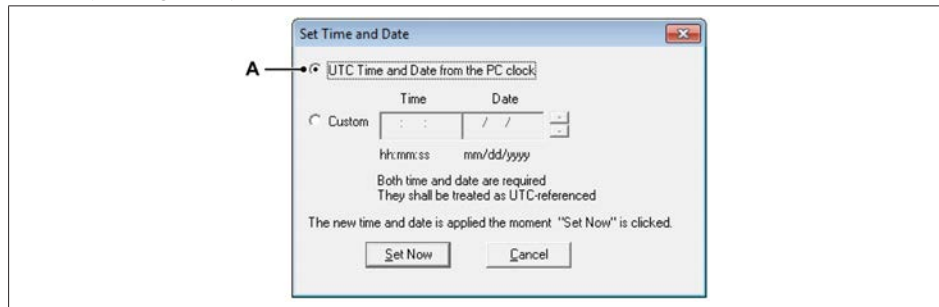

Fig. D.66 UTC Time and Date from the PC clock
11. Now the **Set Time and Date** window is shown (see Fig. D.66).
If the PC's clock is set correctly select the **UTC Time and Date from the PC clock** option button (see Fig. D.66).